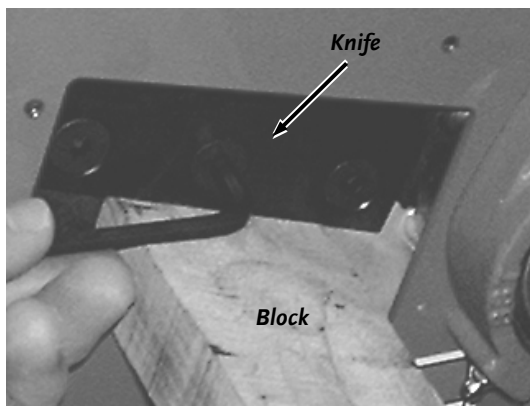

Figure 24
- Tip:** You may want to support the Rotor by inserting a block of wood under the knife while loosening the Locknuts and Screws (**Figure 24**).